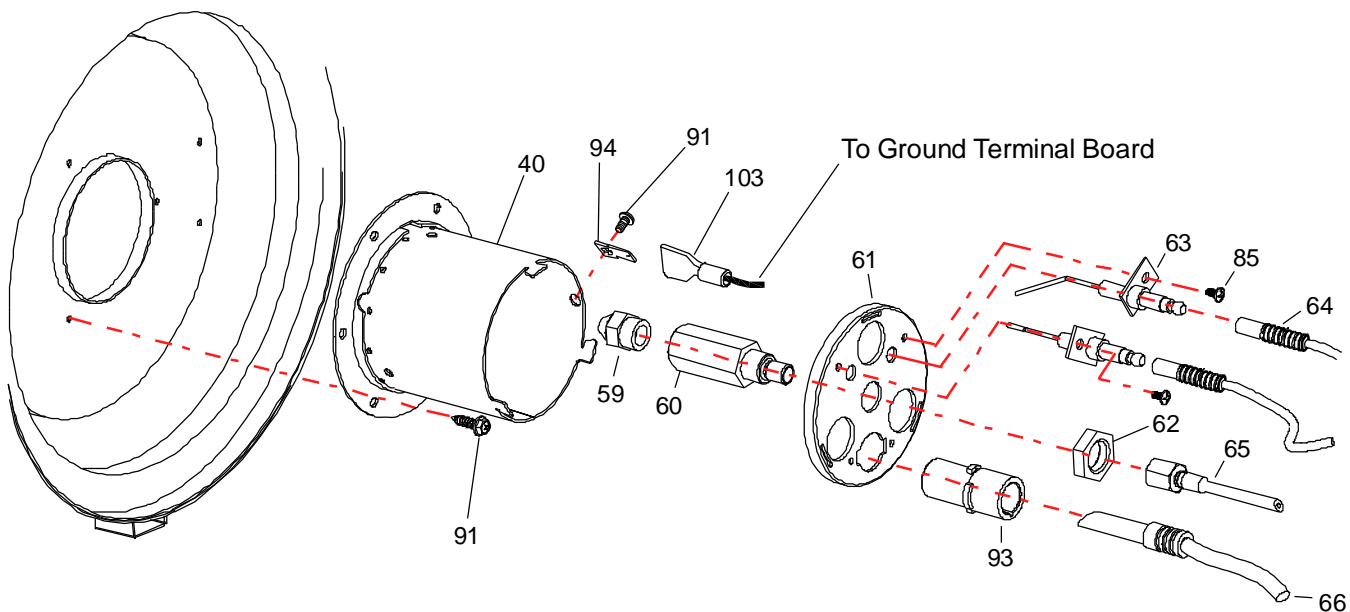

Figure 5-9 – Burner Head & Nozzle Assembly
3. Using an 8mm nut driver, remove the upper heat shield (05) by removing six screws (79) and two sheet metal screws (78); remove heat shield and set aside.
4. Disconnect both H.T. ignition cables (64) from electrodes (63) (see Figure 5-9).
5. Using a Phillips head screwdriver loosen and remove two screws (85). Remove the both electrodes (63).
6. Rotate burner flange (61) counter-clockwise to align tabs with slots on the burner flange. Remove burner flange (61) from combustion head (40).
1. Install electrodes (63) into the burner flange (61).
2. Using a Phillips head screwdriver install and tighten two screws (85) to secure the electrodes (63).
4. Align slots in burner flange (61) with tabs on the combustion head (40). Rotate burner flange (61) clockwise to lock tabs.
5. Reconnect H.T. ignition cables (64) onto the electrodes (63) (see Figure 5-9).
6. Install upper heat shield (05). Using an 8mm nut driver install and tighten six screws (79) and two sheet metal screws (78).
6. Disconnect both H.T. ignition cables (64) from electrodes (63) (see Figure 5-9).
7. Gently pull each H.T. ignition cables through lower heat shield (06) into base (30).
1. Feed new H.T. ignition cables up through base (30) and into lower heat shield (06).
2. Connect both H.T. ignition cables (64) to electrodes (63) (see Figure 5-9).
3. Using a 8mm nut driver, remove the upper heat shield (05) by removing six screws (79) and two sheet metal screws (78); remove heat shield and set aside.
4. Using a Phillip head screwdriver, remove two screws (81) securing control panel assembly (29). Pull assembly straight out and lay down exposing internal components and electrical wires.
5. Pull photocell (66) straight back out of flame detector holder (93) (see Figure 5-9).